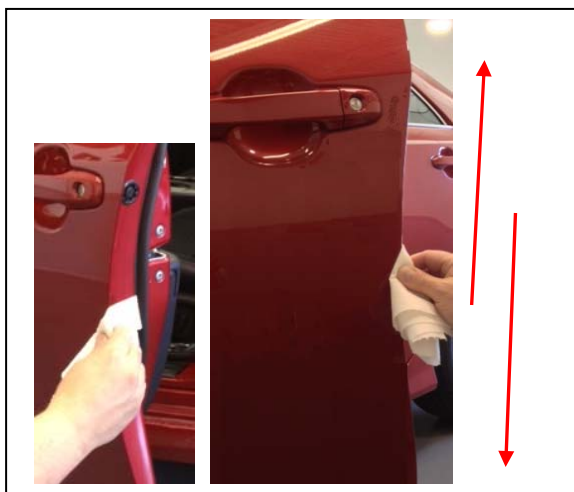

Fig. 1-2
- (2) Using the second lint free cloth, thoroughly dry the area free of Simple Green cleaner previously applied. In some instances a rubber weather seal may be found – ensure to clean between the trailing edge and rubber seal. (Fig. 1-2) Turn the cloth repeatedly to attain a dry surface.